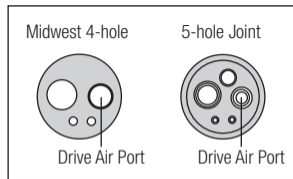

Fig. 12
- 3) Place the Spray Nozzle into the Drive Air Port of the handpiece and spray for approximately 2-3 seconds. Continue spraying until it runs clear from the handpiece head for at least 2 seconds. (Fig. 12)
- 2) Apply 1-2 drops of lubrication oil into the Drive Air Port shown in the Fig. 12.